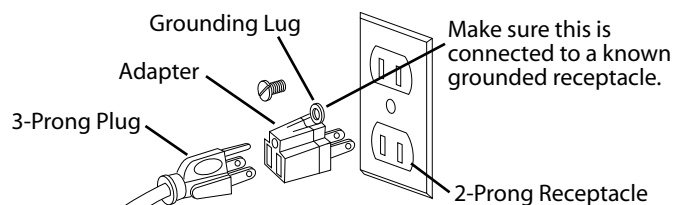

Figure 3 – 2-Prong receptacle with adapter.
- A temporary 3-prong to 2-prong grounding adapter (See Figure 3) is available for connecting plugs to a two pole outlet if it is properly grounded.